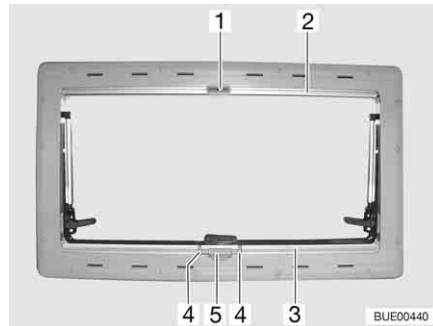

Fig. 82 Hinged window
- Press handle (Fig. 82,4) and draw blind (Fig. 82,3) from the bottom to the top up to the desired height.
- Clench handle (Fig. 82,4). The latch is released.
- Slowly return the blind (Fig. 82,3) to its initial position.
- Pull insect screen (Fig. 82,2) down until it touches the blind (Fig. 82,3), and engage the closure latch (Fig. 82,1) in the locking device (Fig. 82,5).
- Release the closure latch (Fig. 82,1).